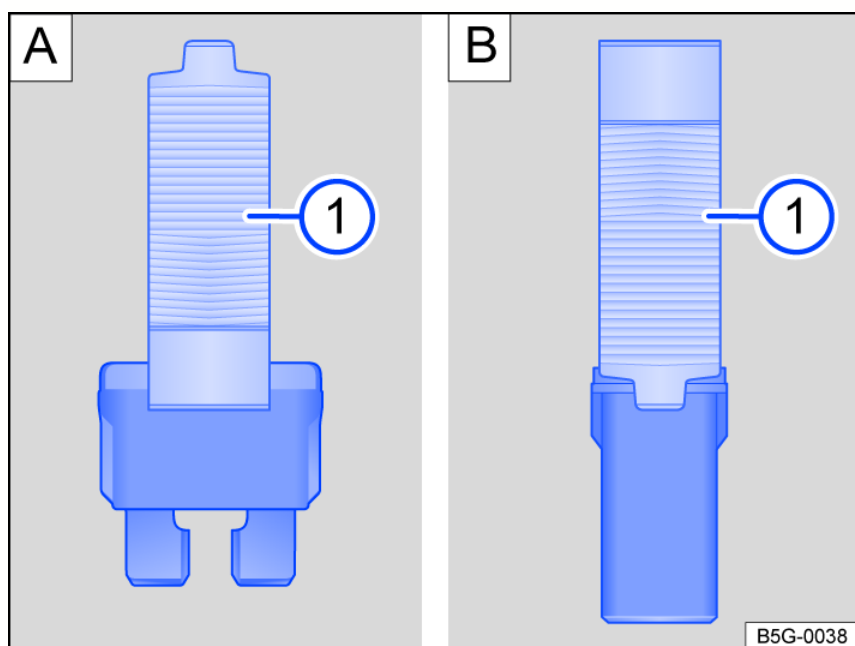

Fig. 184 Remove or install a fuse with the plastic pliers (general example).
- Depending on the fuse version, push the fitting clamp on the plastic pliers on the side of the fuse fig. 184   or fig. 184  .